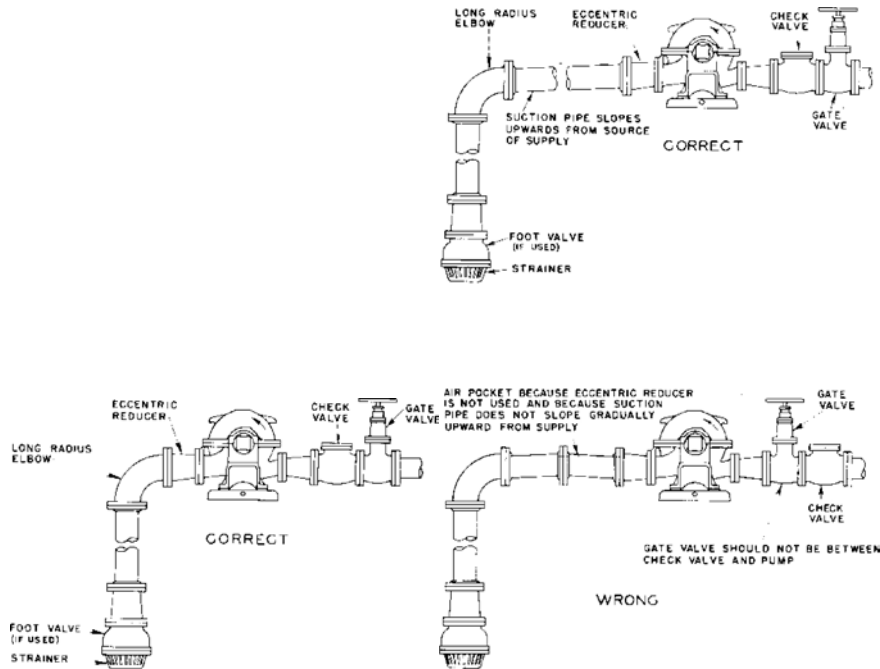

Figure 16:
1. Keep suction pipe free from air pockets - See Figure 16: on page 18.